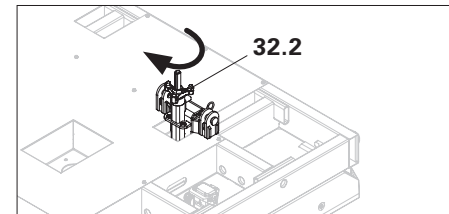

Fig. B2.03
3. Tighten Connector RS MXH with the Triple Wingnut (32.2). (Fig. B2.03)